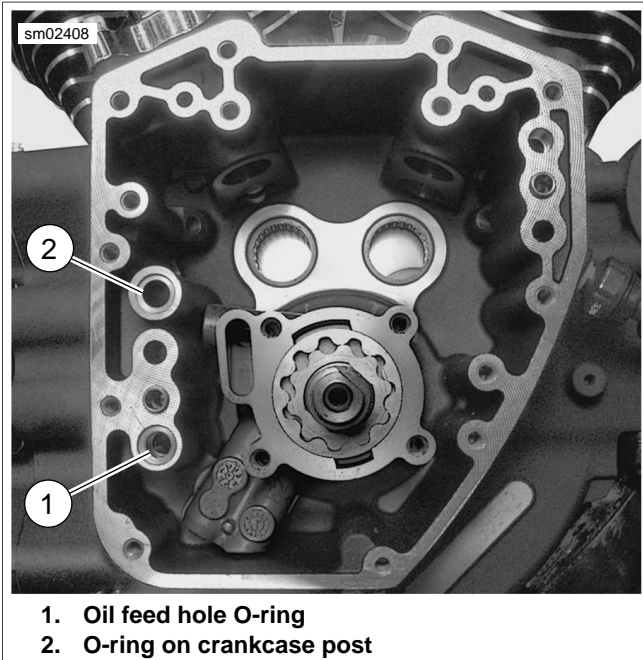

Figure 3-52. Oil Pump O-rings
2. See Figure 3-52. Remove o-rings (1, 2) from crankcase housing. Discard o-rings. See 3.27 OIL PUMP for inspection and repair information.